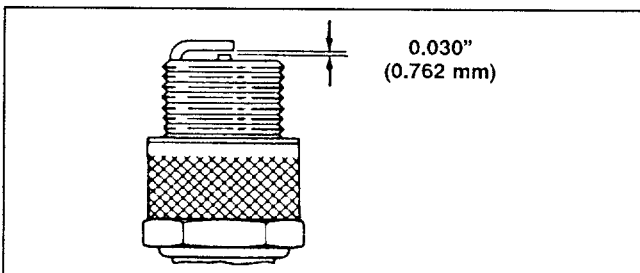

Figure 14
4. Set air gap between center and side electrodes at 0.030 of an inch (0.762 mm) (Fig. 14). Install correctly gapped spark plug w/gasket seal, and tighten plug to 15 ft-lb (20.4 N.m). If a torque wrench is not used, tighten plug firmly.